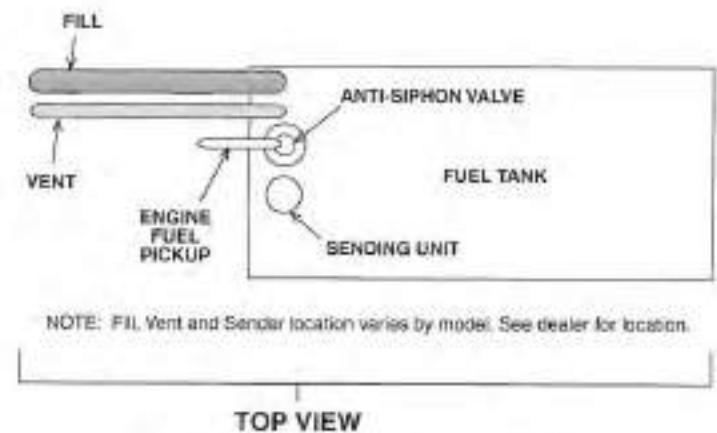

FIGURE 2.1 - FUEL SYSTEM
Fuel System (Figure 2.1)
- Fuel Tank** – The internal fuel tank is accessible through a removable cover board and is equipped with a fuel vent line, fuel fill line, sending unit, and engine fuel pickup as shown in Figure 2.1. Some models with a permanent tank need to be visually inspected. Some models have a portable fuel tank.